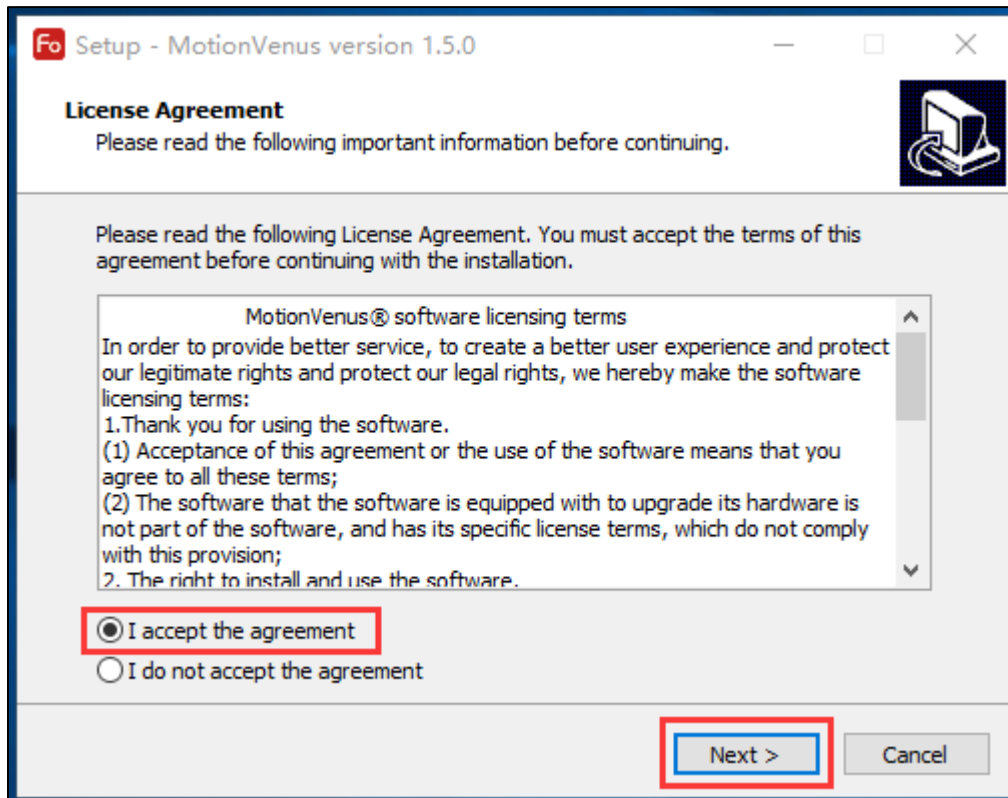

Fig3.1.2. Installation page 2
- (1) installation page 1 you can choose the initialization interface language after installation of the software. At present, the software supports "simplified Chinese", "English" and "Japanese". Click the "ok" button to enter the next page.
- (2) only if you agree to the software license terms can you enter the next installation page. As shown in figure 3.1.2.